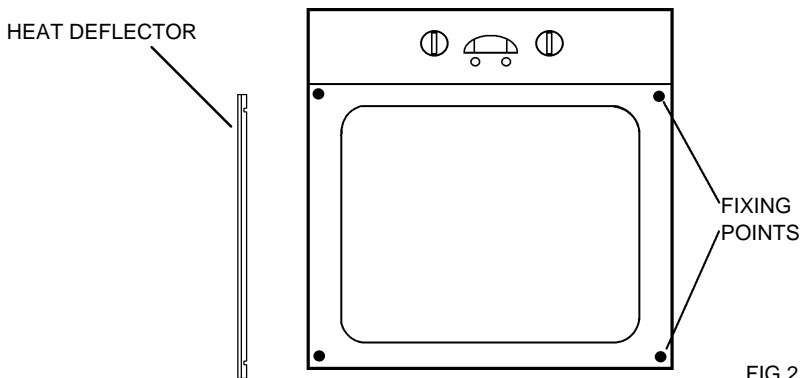

FIG.2
- 10 Centralise and fix the appliance using the four wood screws provided, in the position indicated in Fig.2.
- 9 Centralise and fix the appliance to the cabinet using four wood screws in the position indicated in Fig.2.